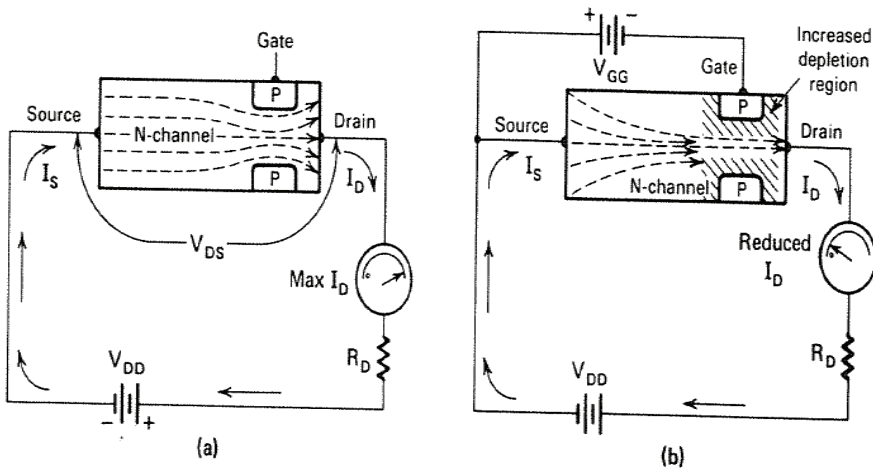

Figure 8.3 N-channel JFET: (a) crystal structure, element names; (b) Biasing.
Figure 8.3 shows the crystal structure, element names, and schematic symbol of an **N-channel JFET**. It is constructed of a block of N-type material. The P-type material of the gate is then diffused into the N channel. Lead wires attached to each end of the channel are the **source (S)** and **drain (D)** connections. The **gate** lead is attached to the diffused p-material.
The operation of a JFET is somewhat unusual when compared with that of a bipolar transistor. **Figure 8.3(a)** shows a cross-sectional view of a JFET in a circuit. In **Figure 8.3(b)**, the source and drain leads of the JFET are connected to a DC voltage source. In this case, maximum current flows through the channel. This is called drain current or I_D and is shown by the arrows of the diagram. The value of V_{DD} and the **internal resistance** of the channel determine the amount of channel current flow or I_D . Typical source–drain resistance values of a JFET are several hundred ohms. Essentially, this means
The amount of bias voltage applied to the gate controls the current carriers passing through the channel of a JFET. In normal circuit operation, the gate is reverse biased with respect to the source (see **Figure 8.3(b)**). Reverse biasing of the gate–source of a P–N junction increases the size of its depletion region. In effect, this restricts or depletes the number of majority carriers that can pass through the channel. This means that I_D is controlled by the value of a gate–source voltage (V_{GS}). If V_{GS} becomes great enough, no I_D will be permitted to flow through the channel. The voltage that causes this condition is called the cutoff voltage. I_D can be controlled anywhere between full conduction and cutoff by a small change in gate voltage.
Figure 8.3(b) shows how the JFET responds when V_{DD} and V_{GG} are connected simultaneously. Note that the **gate–source junction** is reverse biased by the V_{GG} battery. This voltage increases the size of the depletion region near the gate. As a result, the number of current carriers in the channel is reduced. An increase in V_{GS} causes a corresponding decrease in I_D . Reducing the value of V_{GS} causes a substantial increase in I_D . Thus, a change in the value of V_{GS} can be used to control the internal resistance of the channel. Variations in V_{GS} are, therefore, used to control channel current, or I_D .